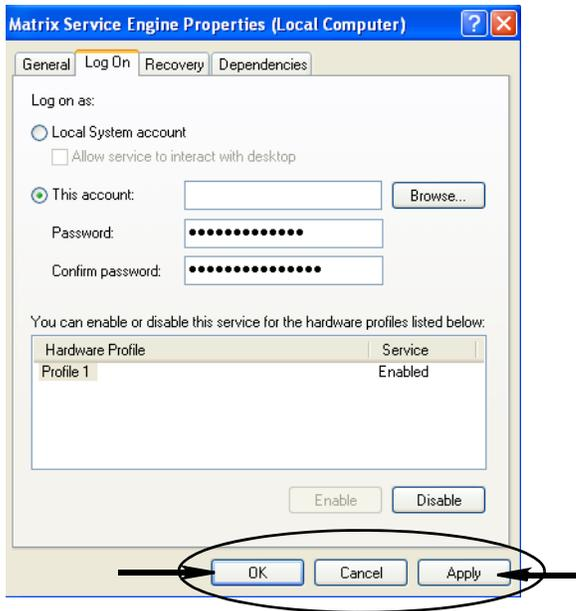

FIG. 41
- If the computer cannot find the user name, the error message shown in FIG. 41, page 42 displays. Continue with step j.
- i. Click the Apply button to apply the changes and then the OK button (FIG. 41).